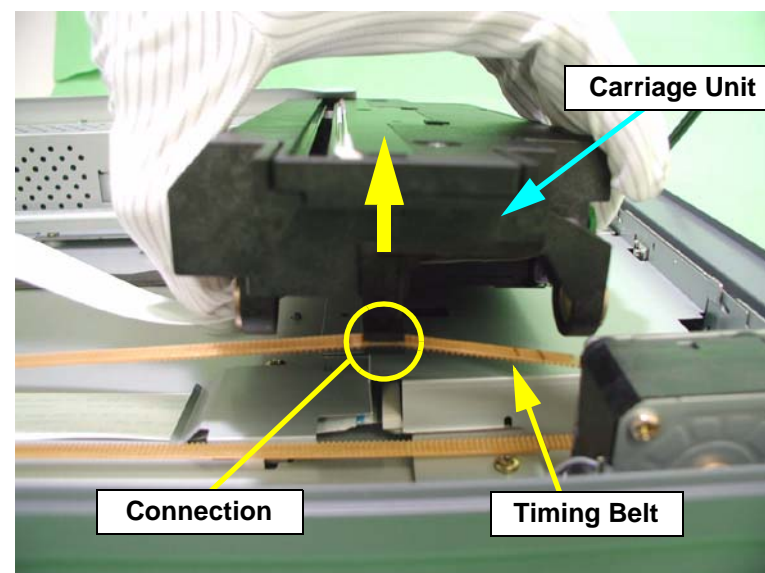

Figure 4-13. Carriage Unit Removal (3)
6. Slide the carriage unit forward by hand, and then lift up the carriage unit and remove the timing belt. (See Figure 4-13)